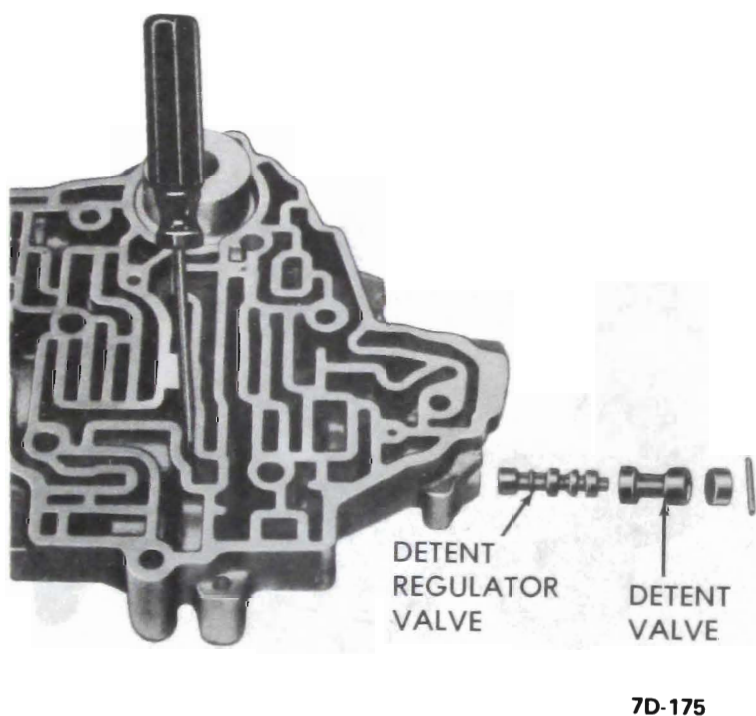

Figure 7D-175
4. In the next bore up, install the detent spring and spacer. Compress spring and secure with small screwdriver. See Figure 7D-175.
5. Install the detent regulator valve. Wide land first. See Figure 7D-175.
6. Install the detent valve, narrow land first. See Figure 7D-175.
7. Remove the screwdriver as the bore plug (hole out) and retaining pin are installed. See Figure 7D-175.
8. In the lower right hand bore, install the 3-2 valve. See Figure 7D-312.